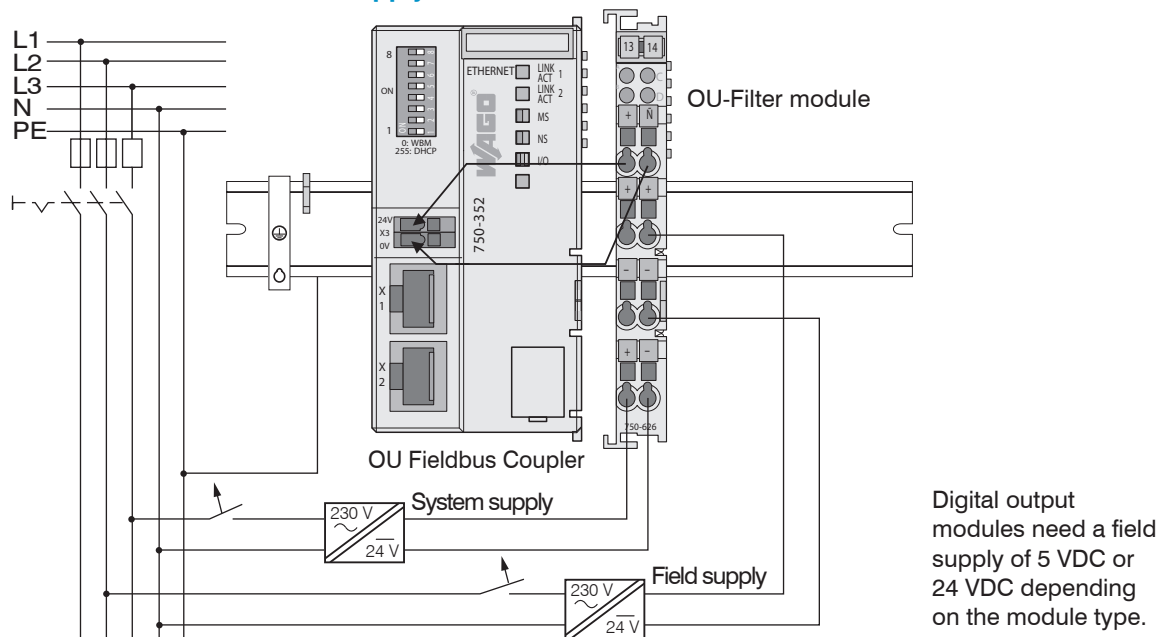

Fig. 39 Separated power units for system and field supply (Ethernet)
- ➡ Connect the “System supply (out)” terminals of the OU-Filter module to the “System supply (in)” terminals of the OU-Fieldbus Coupler (0 V and 24 V, see Fig. 39).
- ➡ Connect the system supply (in) of the OU-Filter module to the power supply (0 V and 24 V, see Fig. 39).
- ➡ Connect the field supply (in) of the OU-Filter module to the power supply (0 V and 5 V/24 V, see Fig. 39).